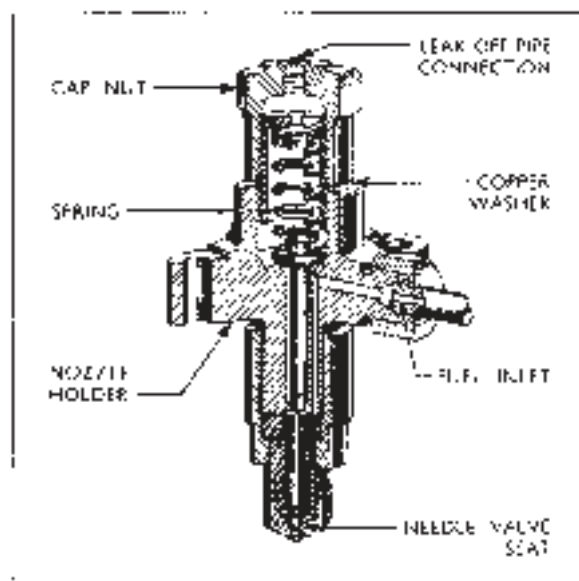

Fig. 26
1. Commence phasing the injection pump at No. 1 element (nearest to the drive end). Open the belt pulley cover of the calibrating machine at right-angles so that the brake mounted behind the lower pulleys is operated against them. Then ensure that the driving belt is fitted to the 200 r.p.m. pulley (see Fig. 26).
A section through an injector is shown in Fig. 26. Fuel from the injection pump enters the injector inlet and passes through a drilling in the nozzle holder before reaching the needle valve seat. The pressure of the fuel when the ports in the injector pump barrel are closed causes the needle valve to open against the action of the injector spring. Fuel is then forced in a highly atomised state, through the two holes in the nozzle tip. A small amount of fuel leaks up between the needle valve stem and the nozzle body, providing lubrication. The leak back fuel rises to the top of the injector where it is returned to the fuel tank by the injector leak-off pipe.